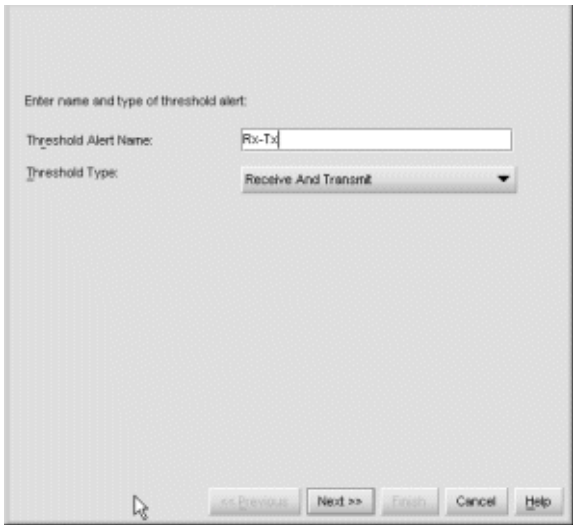

Figure 37: New Threshold Alerts dialog box—first screen
2. Click **New**. The New Threshold Alert dialog box displays, as shown in Figure 37.